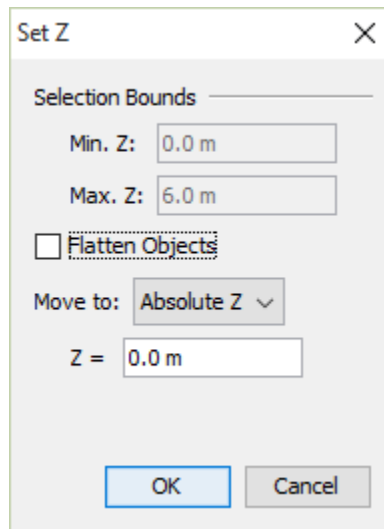

Figure 93. Set Z dialog
Sometimes when importing from 3D CAD models, extracted rooms may not be at the proper height or may have some undesired slope. These issues can be corrected either before or after extracting rooms by using the **Set Z** dialog (Figure 93).
3. This will open the **Set Z** dialog as shown in Figure 93.